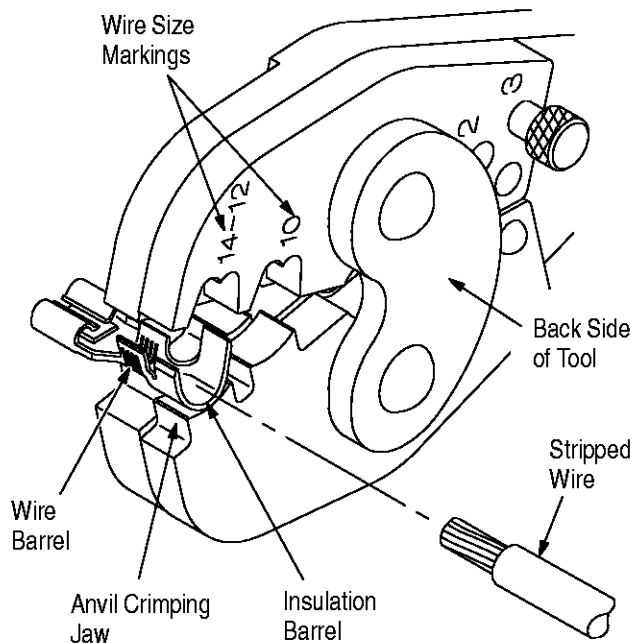

Figure 3
3. Insert the receptacle insulation barrel from the FRONT side of the tool into the appropriate crimping chamber on the anvil crimping jaw. Make sure that it is flush with the edge of the jaw. See Figure 3.